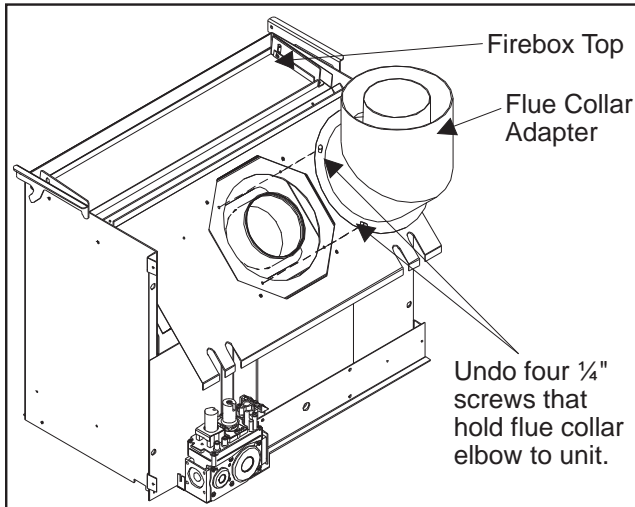

Figure 44: Step 3 of Converting Top Vented into Rear Vented.
2. Remove the four (4) ¼" screws that hold the flue collar elbow to the unit body (see Figure 44).